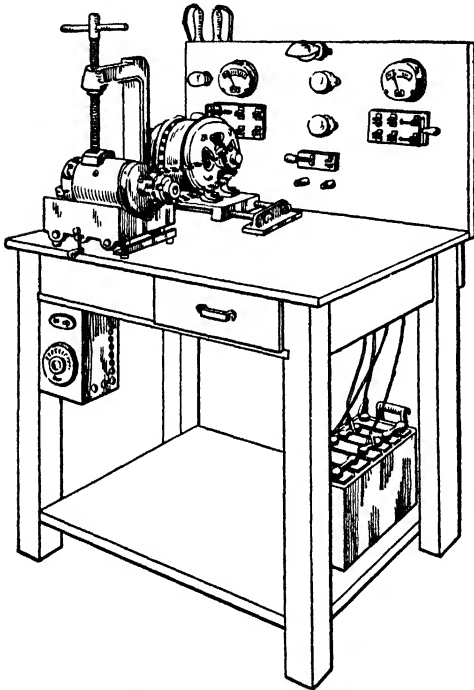

Fig. 17 Electrical Test Bench
**Generator Test Bench.** Fig. 17 shows a test bench that can be made for testing generators. The bench consists of a generator stand;